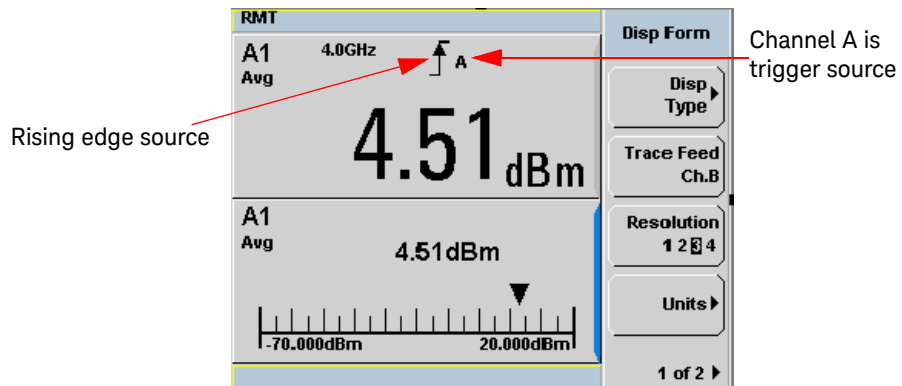

Figure 2-37 Trigger Setting Menu 1 of 2
- 3 Press **Settings** to configure the remaining trigger parameters. The trigger Settings menu have two pages. Figure 2-37 shows page one and Figure 2-40 shows page two.